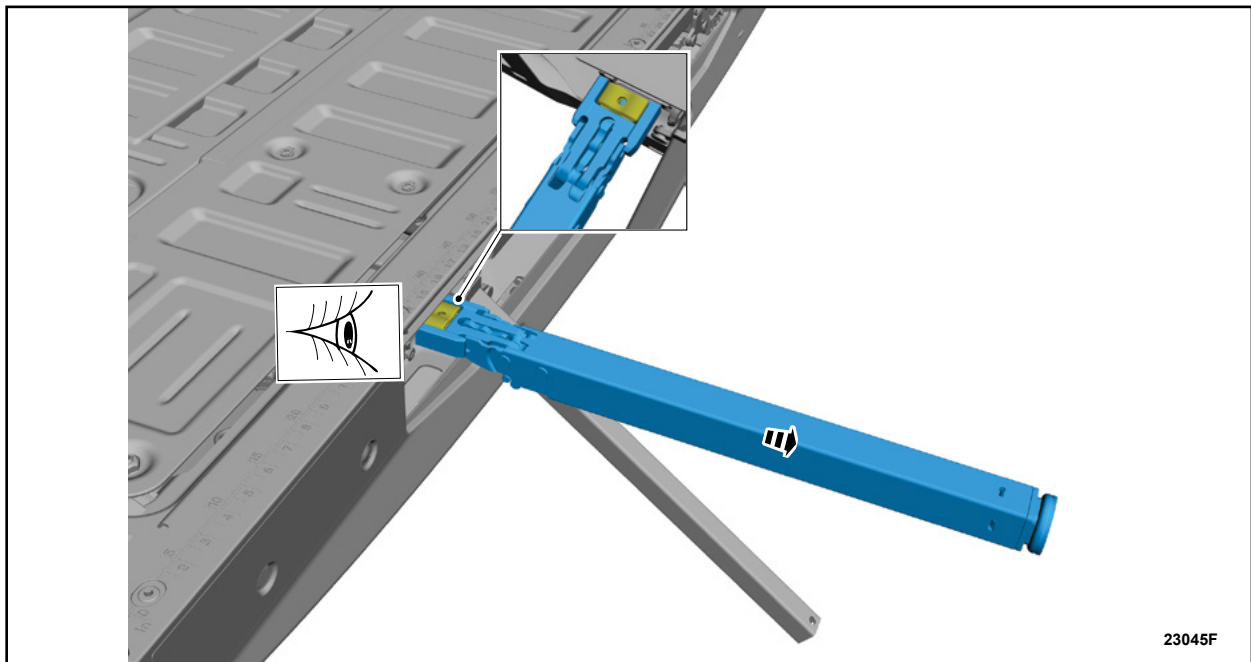

FIGURE 7
4. Pull out and remove the tailgate step assist handle assembly. See Figure 7.